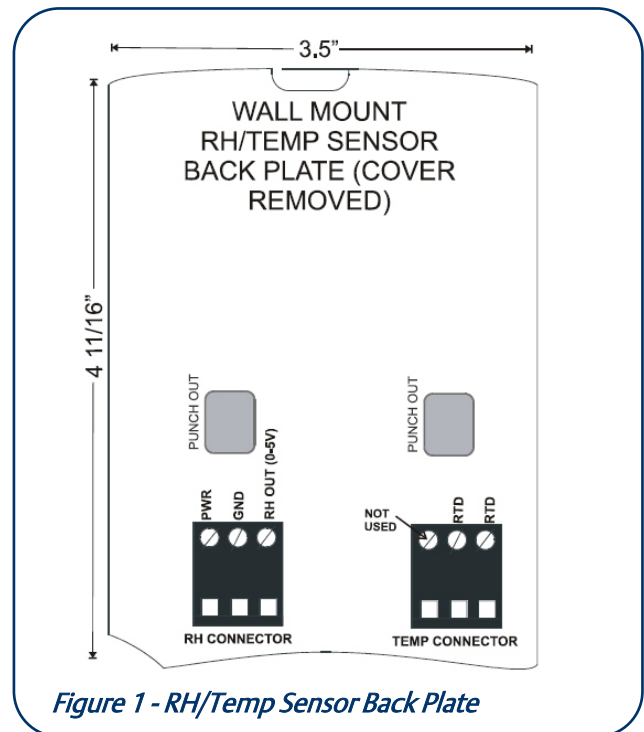

Figure 1 - RH/Temp Sensor Back Plate
2. Remove the punch outs above the wiring connectors so that the sensor cables can be run into the sensor enclosure (see Figure 1).